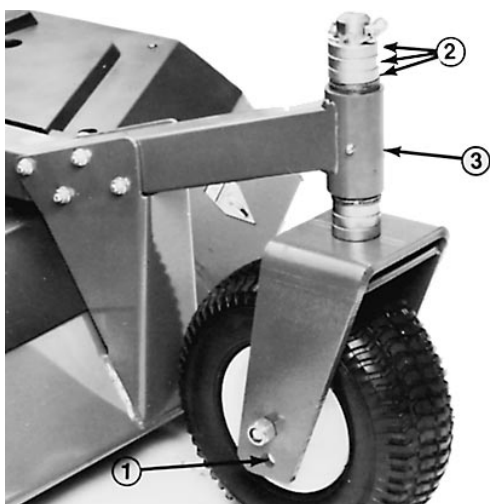

Figure 68
1. Adjust the cutting unit to the highest height of cut. Position the castor wheel axles in lower castor fork holes (Fig. 67, 68). If checking the front cutting unit, reposition the two rear castor's clevis pins to highest height-of-cut setting (Fig. 68). On the front castors, move all castor spacers to the underside of the castor arms (Fig. 68). To check outboard units, move all castor shaft spacers to the underside of the castor arms and castor wheel axles to lower castor fork holes.